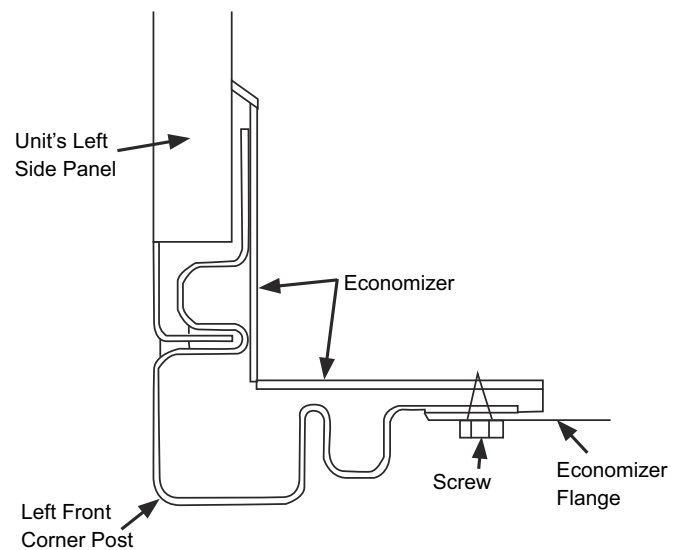

Fig. 21 — Top View
6. Reinstall the left side corner post on to the unit. Note the corner post will sit behind the economizer flange. (See Fig. 21.) Screw through the corner post and through the economizer. (See Fig. 21 and 22.)